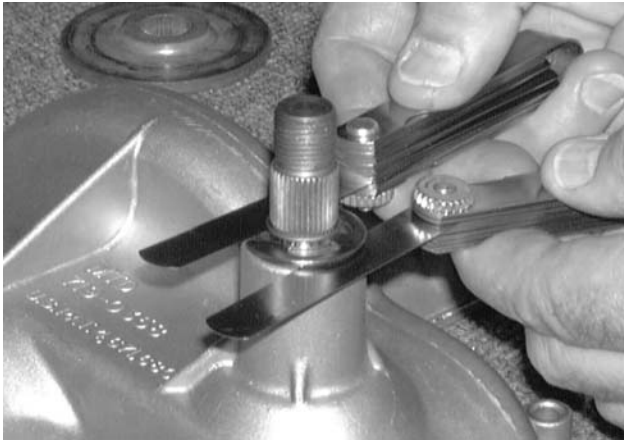

Figure 8-63.
8. Make certain the input shaft does not have excessive tolerance by placing two feeler gauges between the flat washer and the upper transmission housing. See Figure 8-63.